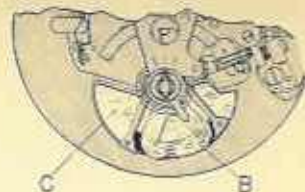

FIGURE 8
When the shunt bridge is off the movement the construction of the driving parts can be seen more clearly. The large balance (Figure 8) with its driving coil (B) and the large, sector-shaped magnet (C) under the balance can also be seen.